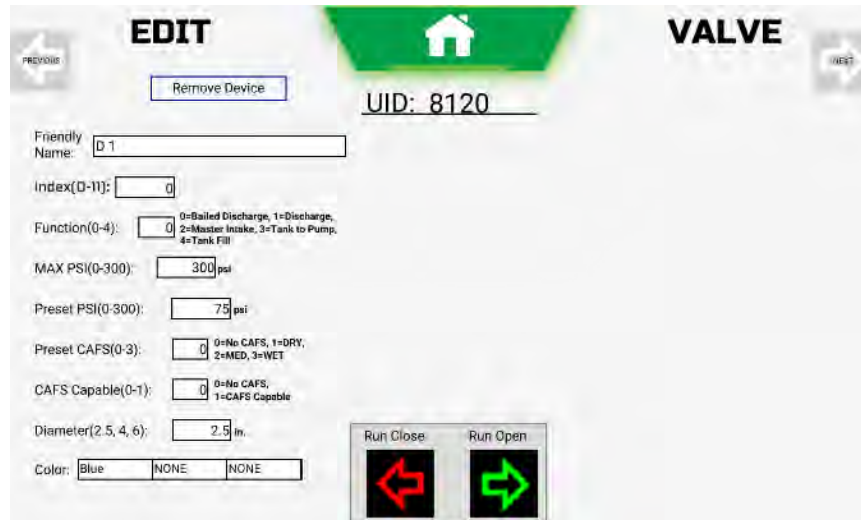

Figure 159. Edit Valve Screen
B. Touch row of desired device. Edit Valve screen (Figure 159) appears.
- E. Touch current Friendly Name, wait for display to transition to EDIT VALVE screen. (See Figure 159, page 189)